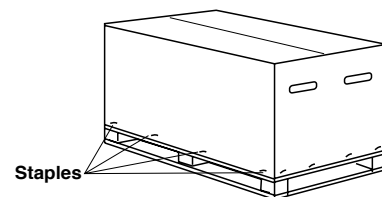

Fig.4-1 Chair Base Section Carton
- (1) Remove all the staples fixing the carton to the pallet, or cut the carton just above the stapled line, and remove the carton. (Fig.4-1)